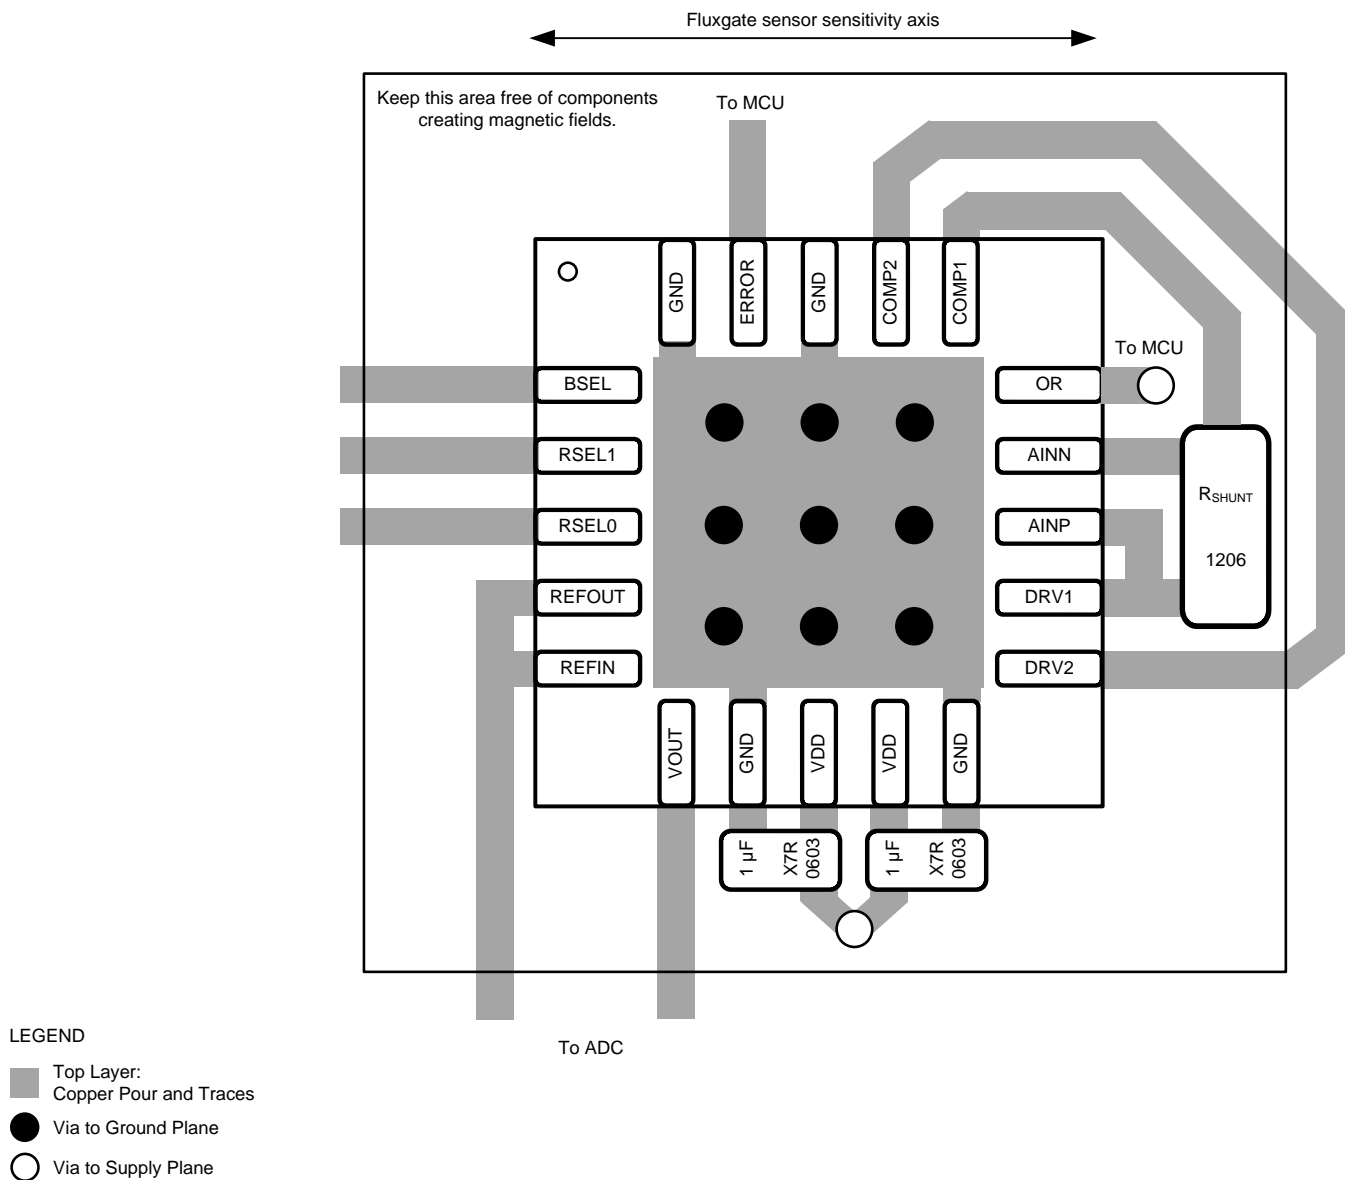

Figure 76. Generic Layout Example (Top View)
Decouple both VDD pins of the DRV425 with 1-μF, X7R-type ceramic capacitors to the adjacent GND pin as illustrated in Figure 76. For best performance, place both decoupling capacitors as close to the related power-supply pins as possible. Connect these capacitors to the power-supply source in a way that allows the current to flow through the pads of the decoupling capacitors.
- Route currents parallel to the fluxgate sensor sensitivity axis as illustrated in Figure 76. As a result, magnetic fields are perpendicular to the fluxgate sensitivity and have limited affect.
Figure 76 illustrates a generic layout example that highlights the placement of components that are critical to the DRV425 performance. For specific layout examples, see the *DRV425EVM Users Guide*, SLOU410.